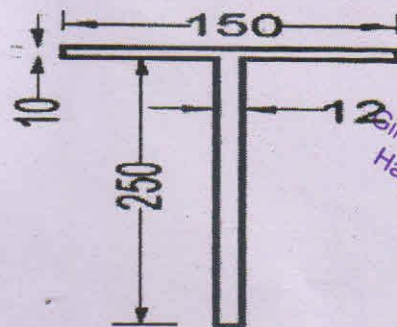

Figure 6
7. (a) Determine the shape factor of a thin hollow circular section. Consider D is the external diameter and t is the thickness of the section. (4)
- (b) Calculate the shape factor of a T-section showing in Figure 6. (all dimensions are in mm). (5)